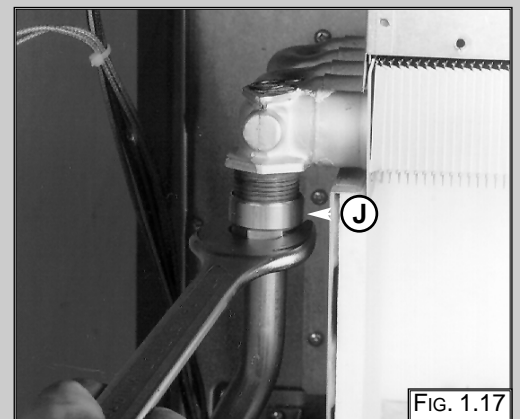

FIG. 1.17
3. Release the two connection nuts "J" connecting the exchanger to the flow and return pipes (FIG. 1.17);